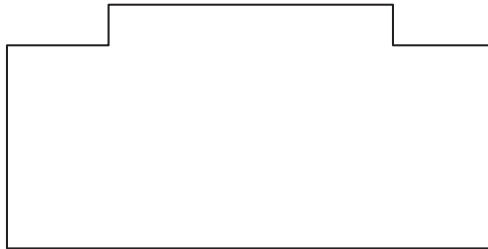
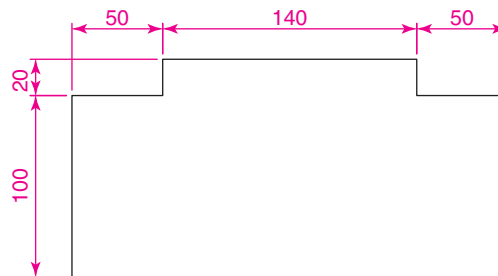

Fig. 6.7 First example – outline to dimension
Fig. 6.8 First example – horizontal and vertical dimensions
1. Construct the outline Fig. 6.8 using the **Line** and **Fillet** tools.
2. If the response is **a** (Angle), and an angle number is *entered* the text for the dimension will appear at an angle. Fig. 6.7 shows a radius dimension *entered* as an angle of 45°.
First example – hor and ve (horizontal and vertical) – Fig. 6.8
1. Construct the outline Fig. 6.7 using the **Line** tool. Its dimensions are shown in Fig. 6.8.
The result is shown in Fig. 6.8.